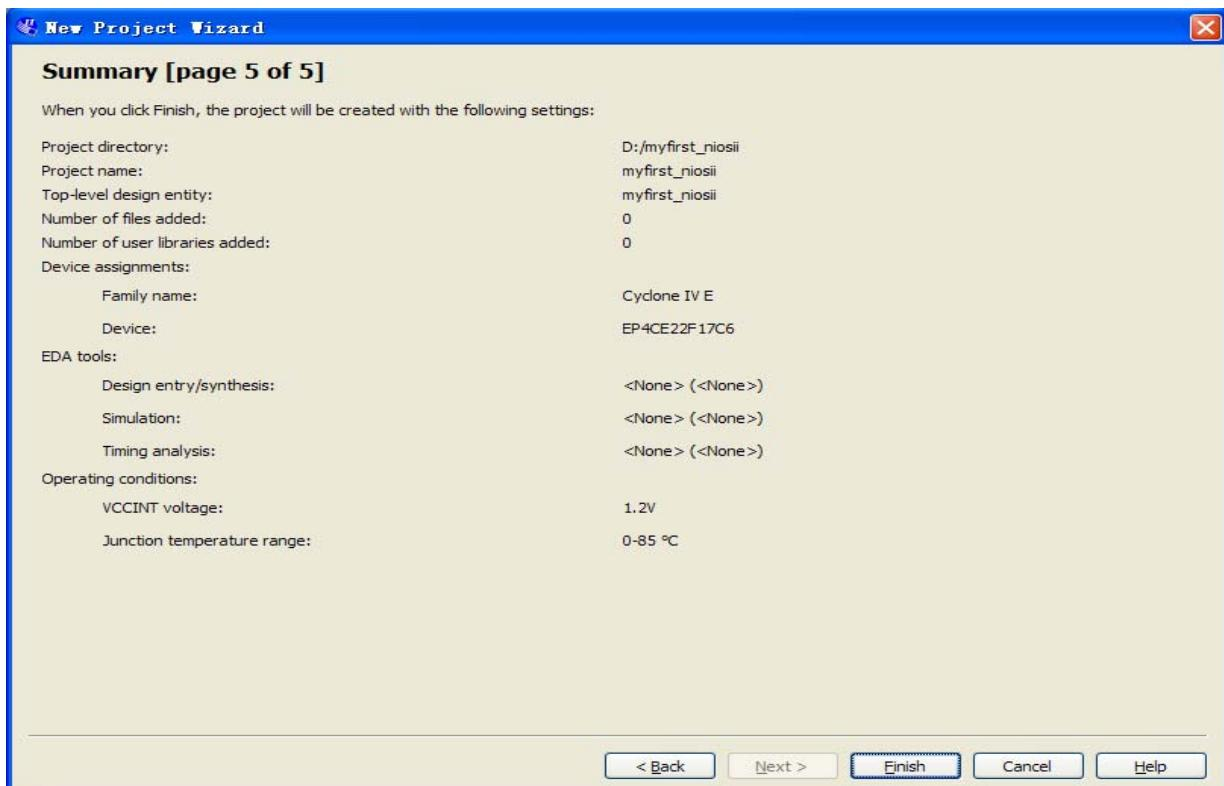
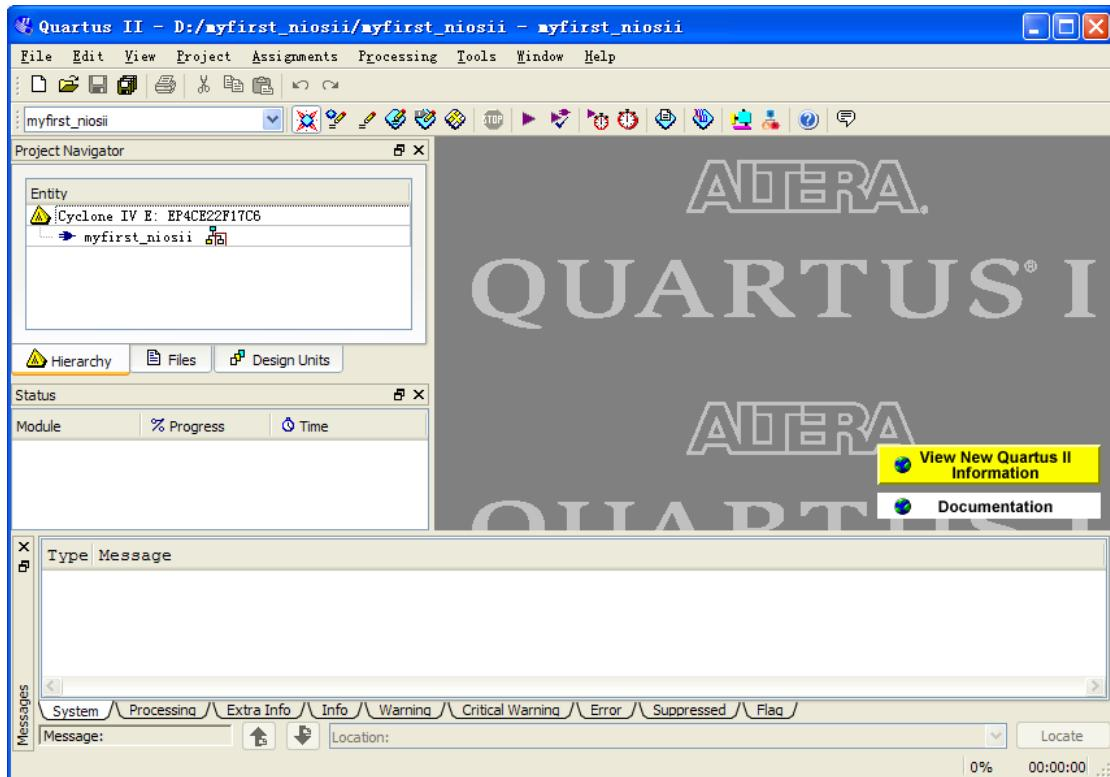

Figure 7-7 New Project Wizard: Summary [page 5 of 5]
Figure 7-8 A New Complete Project
- Click **Next** and will see a window as shown in **Figure 7-7**. **Figure 7-7** is a summary about the new project. Click **Finish** to complete the New Project Wizard. **Figure 7-8** show the new project.